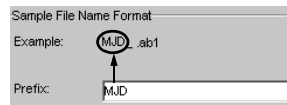

Figure 3-14 Prefix Box
1. Click the **Prefix** box (optional) to type a prefix for the file name. All that you type here is shown in the Example line (see figures 3-14 and 3-15).